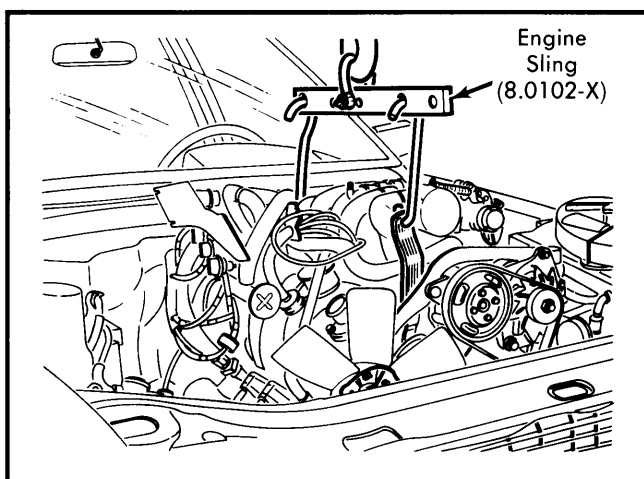

Fig. 2 Removing Engine from Vehicle
8) Remove air conditioning condenser and set to left side, keeping hoses connected. Remove and set receiver-drier to one side. Lift engine with 8.0102-X engine sling assembly until top of bell housing contacts lower firewall. See Fig. 2.